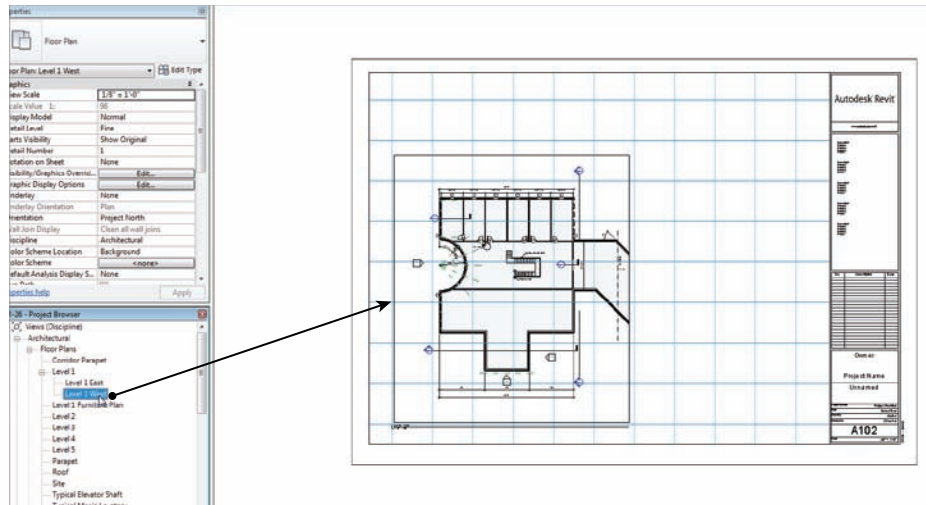

FIGURE 14.3 Dragging the view onto the sheet
5. In the Project Browser, find the dependent view called Level 1 West, as shown in Figure 14.3.
7. Drag the view onto the sheet (see Figure 14.3).